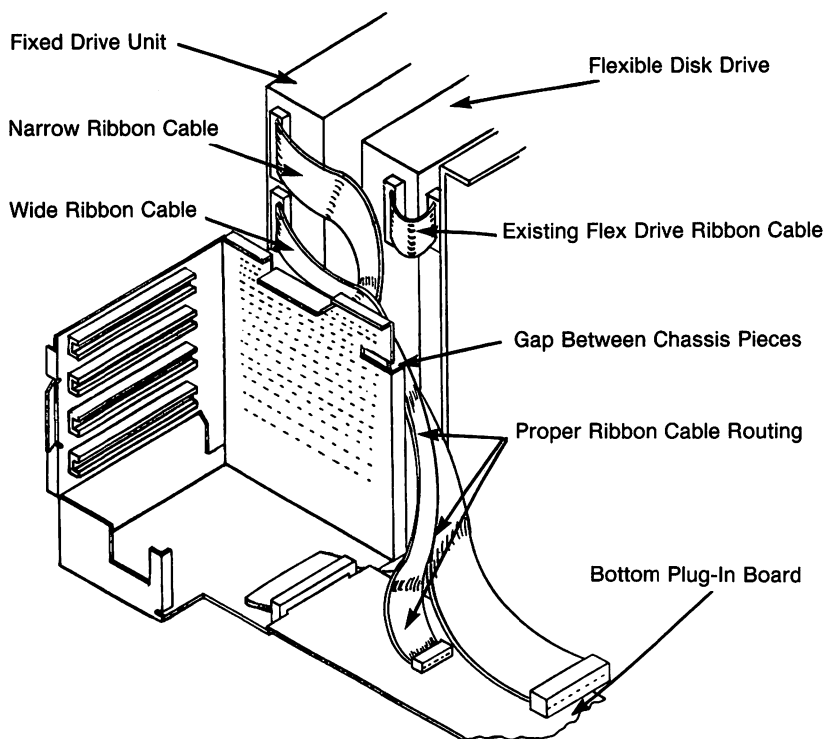

Figure 4-25 Routing of ribbon cables through chassis (rear quarter view)
11. Route the widest ribbon cable first. Refer to Figure 4-25 and feed the edge between the chassis frames such that the cable lays “flat side to flat side” with the “inboard” disk drive ribbon cable already present in the unit. The chassis framing can be “pryed” slightly to increase the gap between the chassis pieces and assist in routing the ribbon cable into place.
13. Again referring to Figure 4-25, the ribbon cables should now be routed through and in place, as shown, with the free end connectors laying on top of the bottom most Plug-In Board at the rear of the P.C. unit.